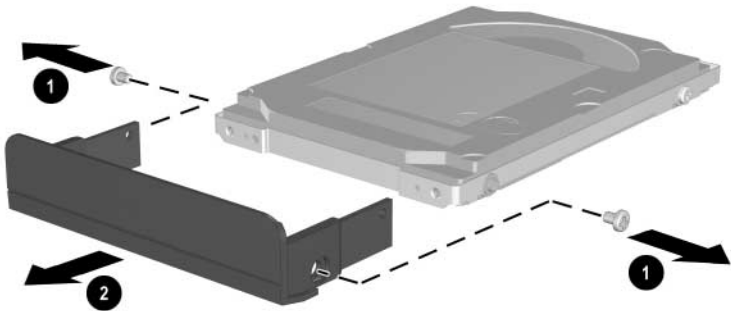

Figure 5-6. Removing the Hard Drive Bezel
7. Remove the two PM3.0 × 4.0 screws ❶ that secure the hard drive bezel to the hard drive (Figure 5-6).
8. Slide the hard drive bezel forward to separate it from the hard drive ❷.